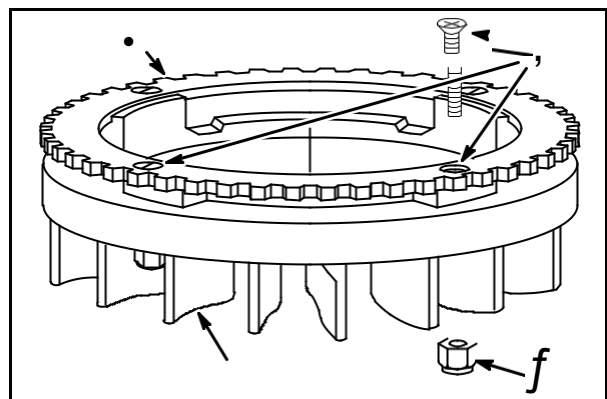

Fig. 48
Mark center of rivets holding the ring gear (1) to flywheel (4), **Fig. 48**, with a center punch.